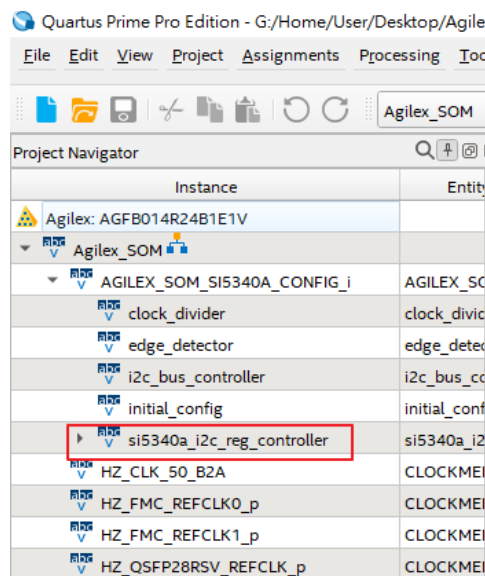
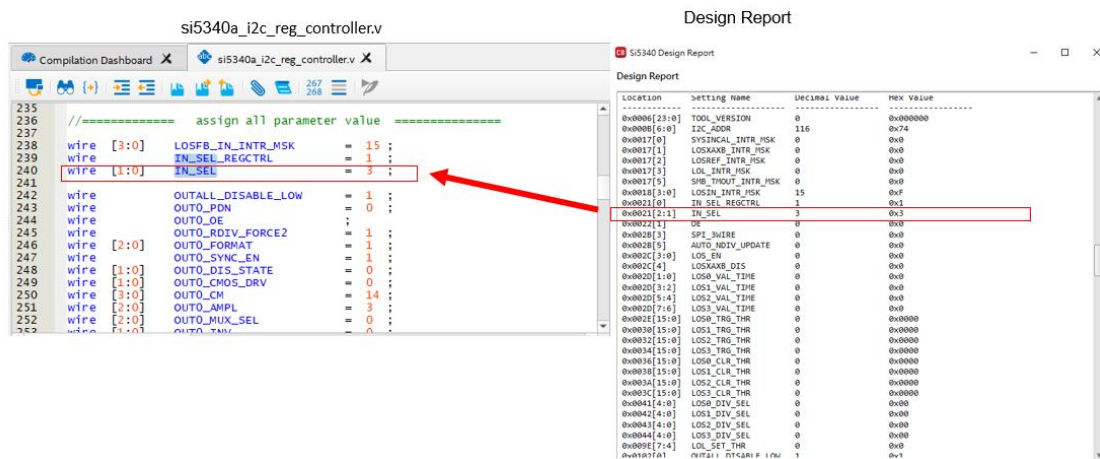

Figure 2-5 Sub-Module file "si5340a_i2c_reg_controller.v"
Figure 2-6 Modify Si5340A Control IP Base on Design Report
- Open Si5340 control IP sub-module “si5340a_i2c_reg_controller.v” as shown in **Figure 2-5**, refer to Design Report parameter to modify sub-module corresponding register value (See **Figure 2-6**).